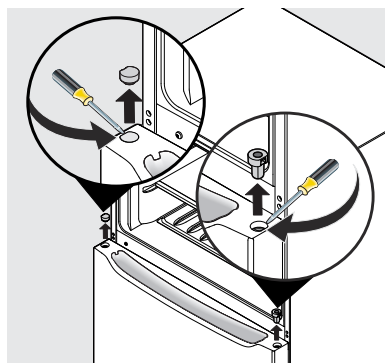

Figure 6
- Pry out the center hinge bearing from the top of the refrigerator door with a straight screwdriver (see Figure 6).
- Pry out the center hinge bearing plug from the opposite side of the refrigerator door with a straight screwdriver (see Figure 6).